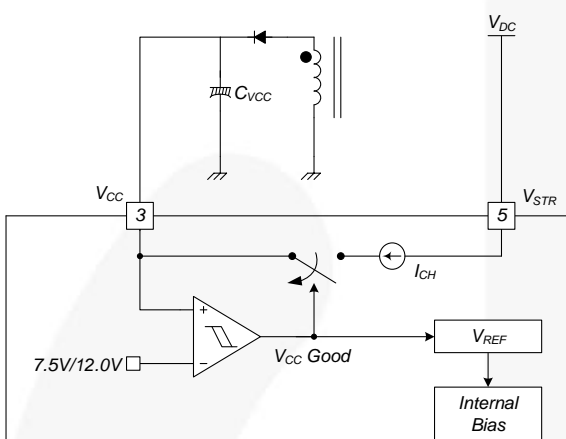

Figure 18. Startup Block
**1. Startup:** At startup, an internal high-voltage current source supplies the internal bias and charges the external capacitor ( $C_{VCC}$ ) connected to the  $V_{CC}$  pin, as illustrated in Figure 18. When  $V_{CC}$  reaches 12 V, the FSL117MRIN begins switching and the internal high-voltage current source is disabled. Normal switching operation continues and the power is supplied from the auxiliary transformer winding unless  $V_{CC}$  goes below the stop voltage of 7.5 V.